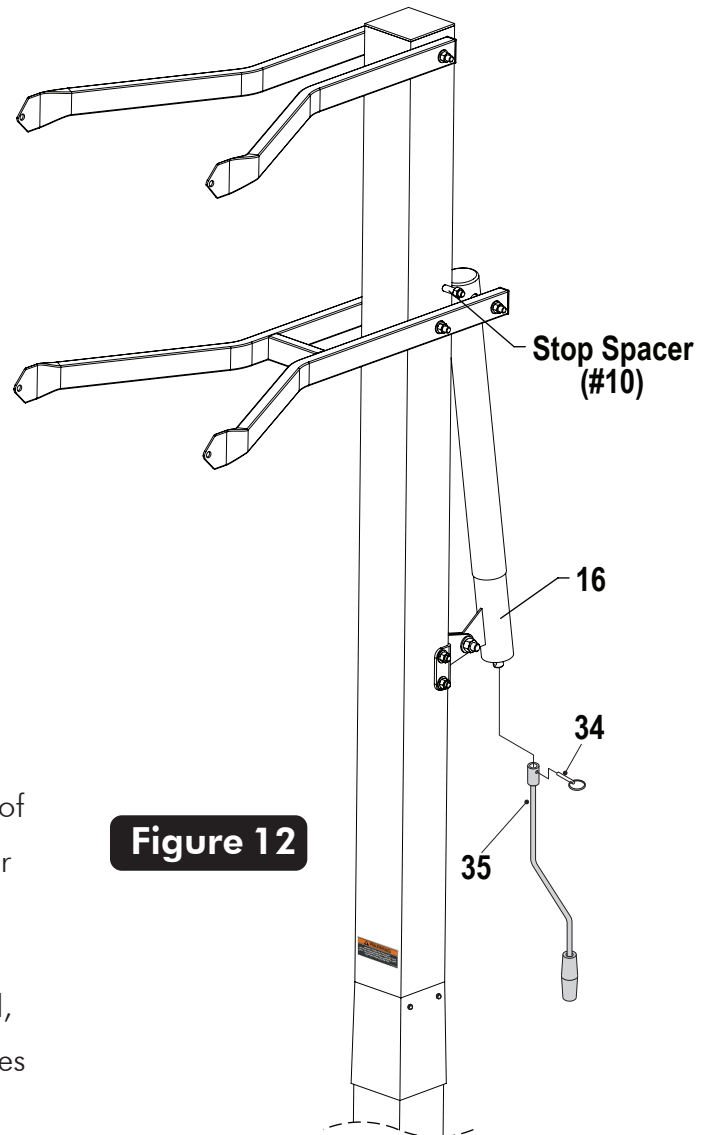

Figure 12
16. Slide Actuator Handle (#35) onto shaft on the bottom of Actuator (#16). Line up hole in shaft with hole in Actuator Handle and insert Pin (#34) to secure. See **Figure 12**.